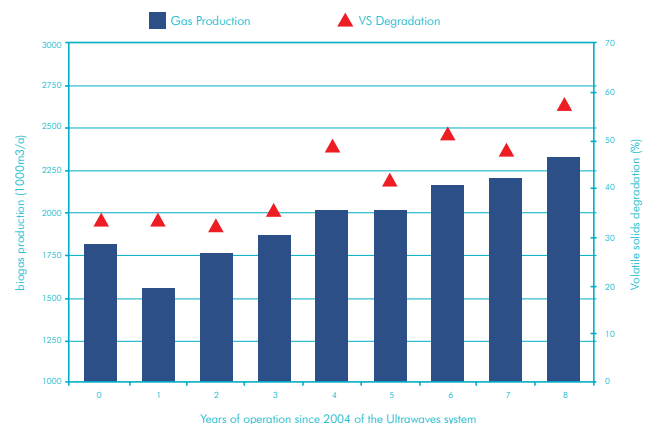

FIGURE 2
- ◆ Intensification of sludge digestion: degradation of VS increased from 34% to 58% (see figure 2)